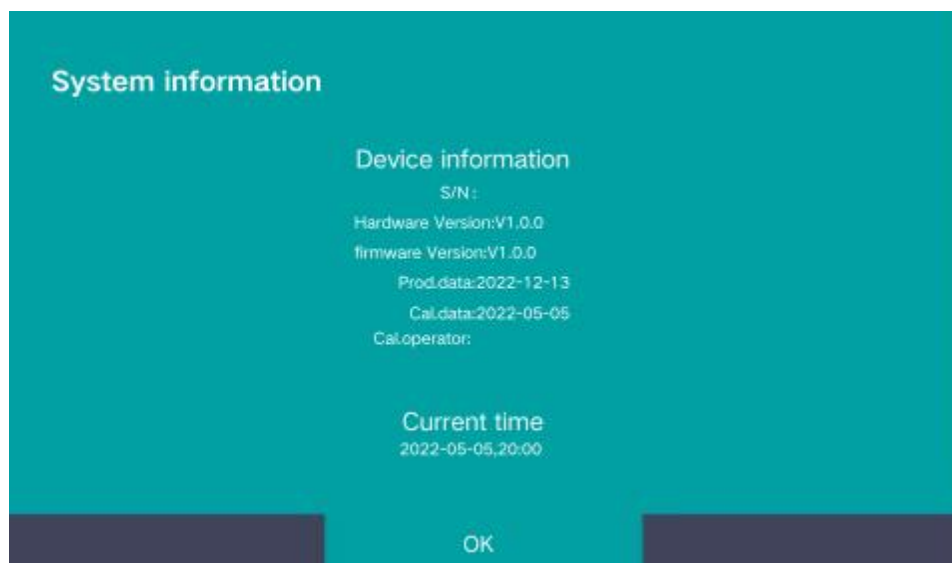

Figure 5-3-3 About Device Screen
6) About Device: After pressing the OK button, you can switch to the "About Device" screen to view information related to the main unit. Press the OK button again to return to the Settings screen. This is shown in Figure 5-3-3.